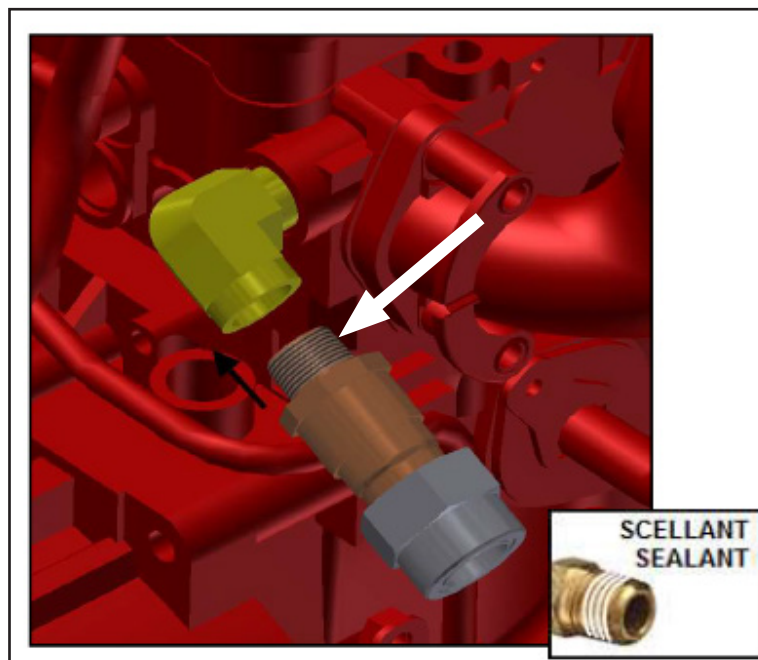

Figure 4 - Apply Loctite
- 1.7. Apply Loctite 565 thread sealant on the new adaptor (NPT end only) (see figure 4).